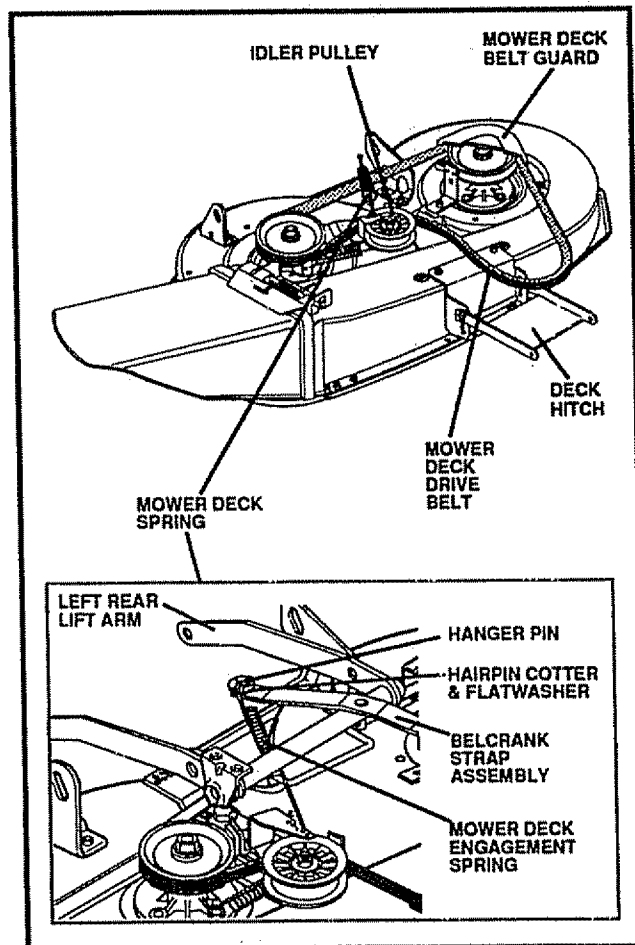

FIG. 21
- Disconnect mower deck engagement spring from belcrank strap assembly (see **FIG. 21**).
- From left side of tractor, slide deck rearward. Then connect mower deck engagement spring to hanger pin on the mower clutch lever belcrank strap assembly, and reinstall flatwasher and hairpin cotter on hanger pin (see **FIG. 21**).